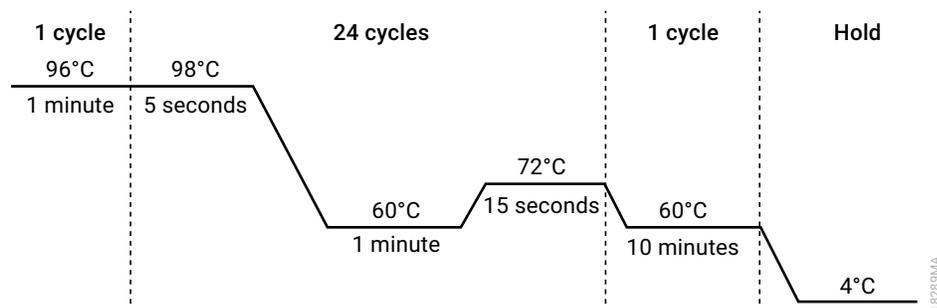

Figure 2. Thermal cycling protocol for the ProFlex® PCR System.
- Select and run the recommended protocol, which is provided below and in Figure 2. The total cycling time is approximately 55 minutes.